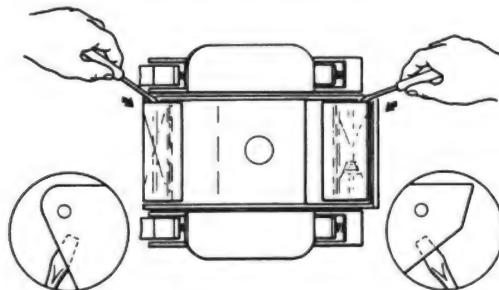

Figure 11
- Remove the front and rear flaps from your Navigator by inserting a small screwdriver between the flap and the lower body near the pivot point of the flaps (*see Figure 11*).